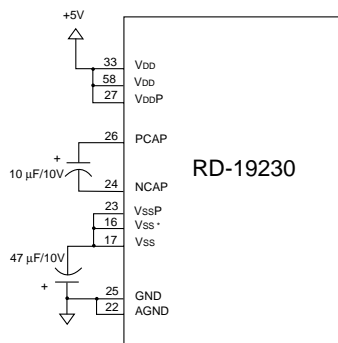

FIGURE 5. -5V INVERTER CONNECTIONS
- 6) Using the -5V Inverter will eliminate the need for a -5 V supply. Refer to FIGURE 5 for the necessary connections.